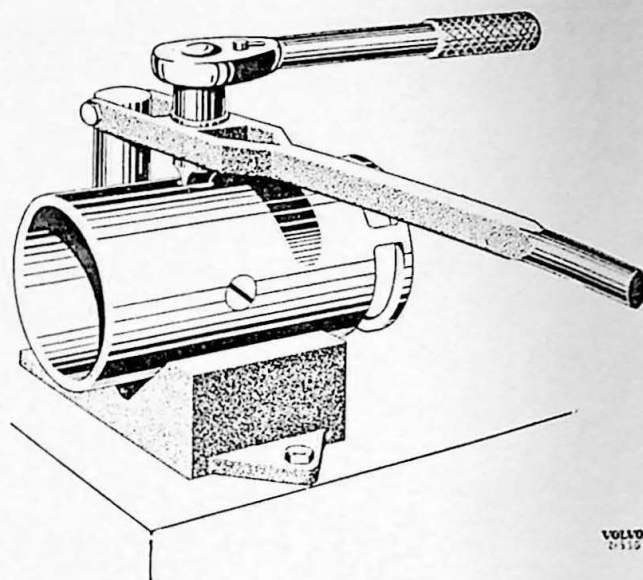

Fig. 10-45. Removing the field winding
- Place the generator housing in a V-block as shown in Fig. 10-45. Press downwards at the same time as turning the screwdriver. The screws are usually very tight. Therefore ensure that the screwdriver fits properly into the groove in the head of the screw and is sufficiently wide. When both screws have been removed, lift the housing out of the way. Screw out the screws with a screwdriver. Remove the cable inlet in the housing and lift out the windings and pole shoes.